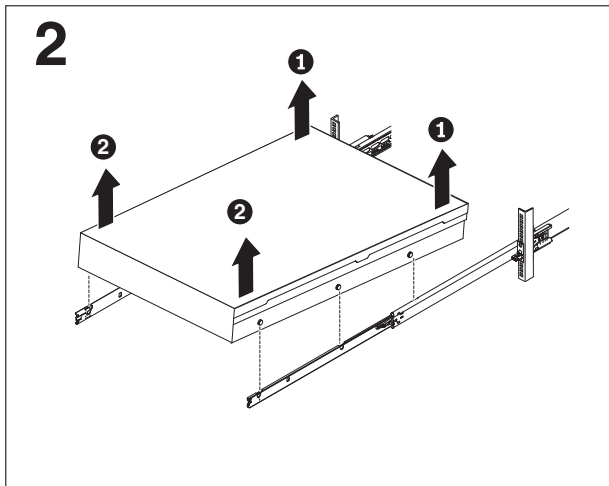

Figure 33. Lifting the server off the slide rails
6. Lift the rear **1** of the server to level the server after the front nail heads clear the latches, as shown in Figure 33 on page 44.